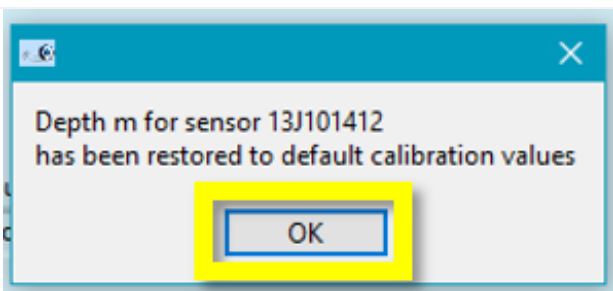

Figure 179. Click "OK" to Confirm Sensor was Restored
**STEP 4** | A second pop-up window appears to confirm the sensor has been restored to default calibration values. Click "**OK**" to complete the factory reset (Figure 179).